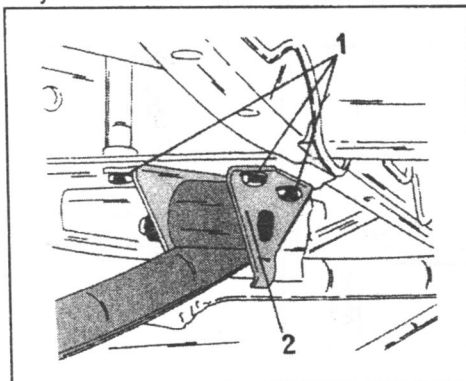

Fig. 7.9. — The bolts (1) secure the front spring mounting bracket (2) to the chassis.
- Lift the axle further, as required until the front spring mounting bracket is against the chassis. Fit the bolts (1) in Fig. 7.9 without tightening them fully. Check that all bolts are situated in the centre of the elongated holes and then tighten them to 5.0 kgm (36 ft.lb.).